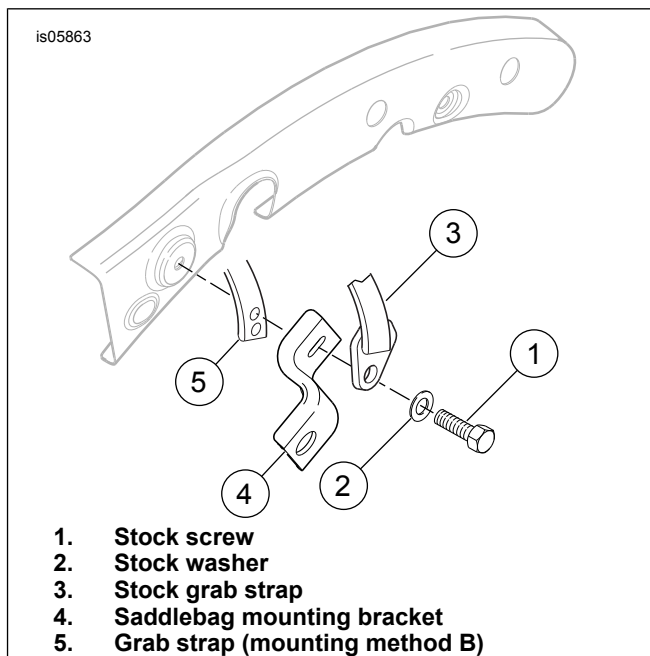
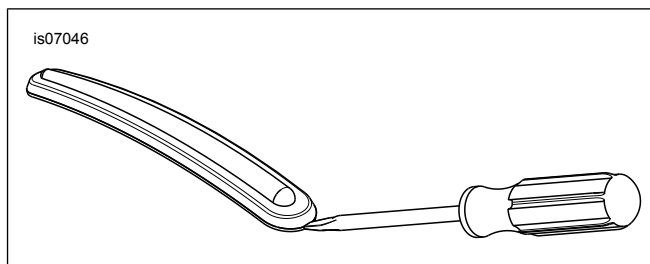

Figure 4. 2013 and Earlier: Remove Grab Strap and Install Kit 53051-09
Figure 5. Remove Fender Trim Strip
2. See Figure 4. Remove left side screw (1) and washer (2) to remove bracket (4) and passenger grab strap (3).
3. Remove screw with lockwasher (D) from rear of currently installed seat.
4. **ALL Kits except 53051-09:** Remove two flanged nuts (E) from studs (F) near front of rear fender.
- b. See Figure 5. Insert tip of screwdriver between chrome bezel and rubber trim strip.
4. See Figure 4. Install grab strap (5) behind saddlebag mounting bracket (4).